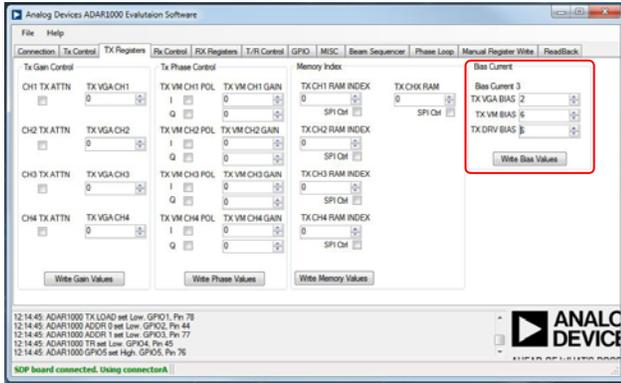

Figure 9. Setting Transmit Bias Currents
1. Click the **TX Registers** tab (see Figure 9).